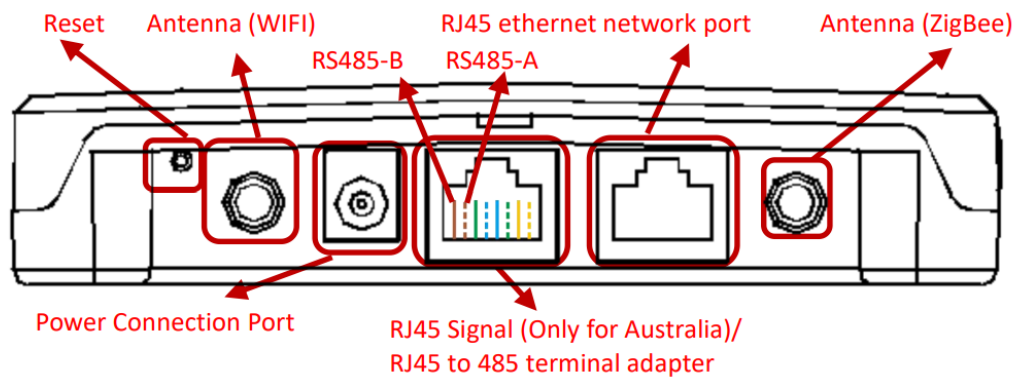

Figure 2
- The ECU-R interface includes, (figure 2) from left to right